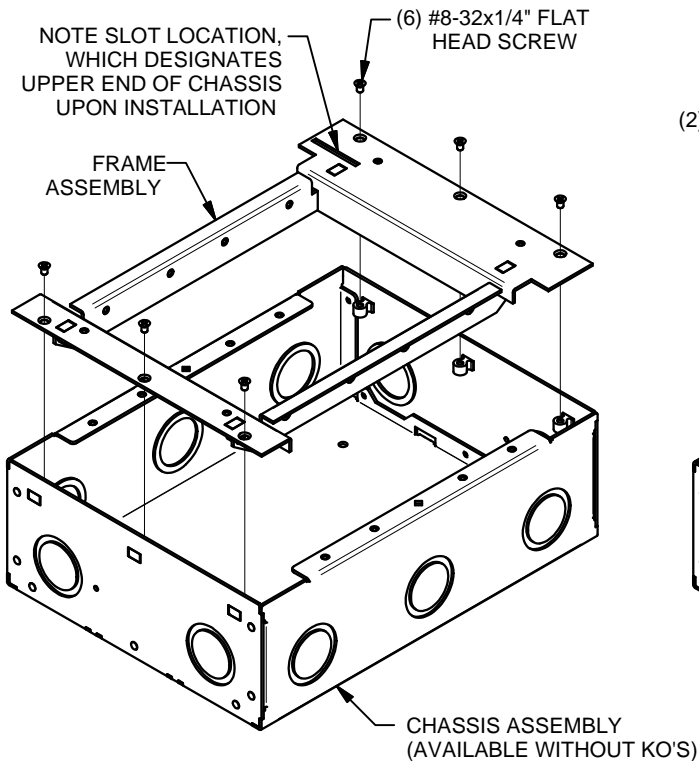

FIGURE 4
4. INSTALL FRAME ASSEMBLY AS SHOWN IN FIGURE 4.